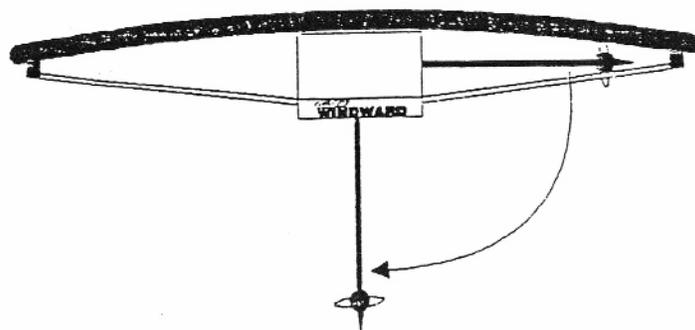

FIGURE 9
4. While firmly holding on to the motor shaft, reach through tramp lacing, push and hold down the Tilt Lock Button. Be careful not to pinch your fingers! With your arm lower motor into run position (see figure 9).